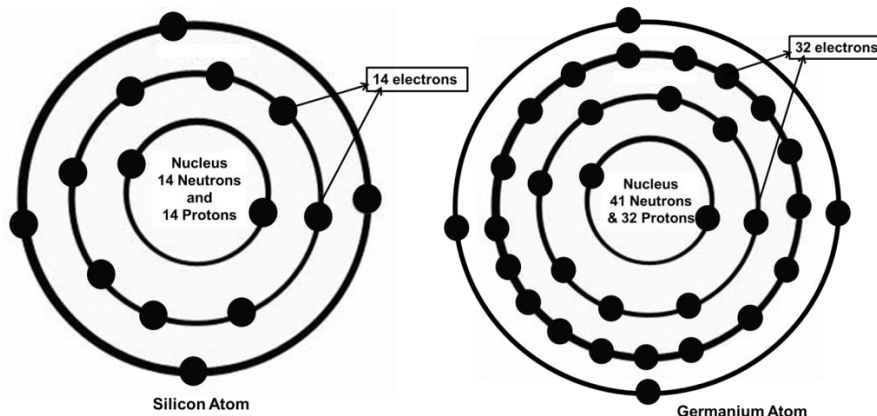

Fig 1.2
4. Figure 1.2 gives a 2 D simplified orbital arrangement of silicon & germanium atom.